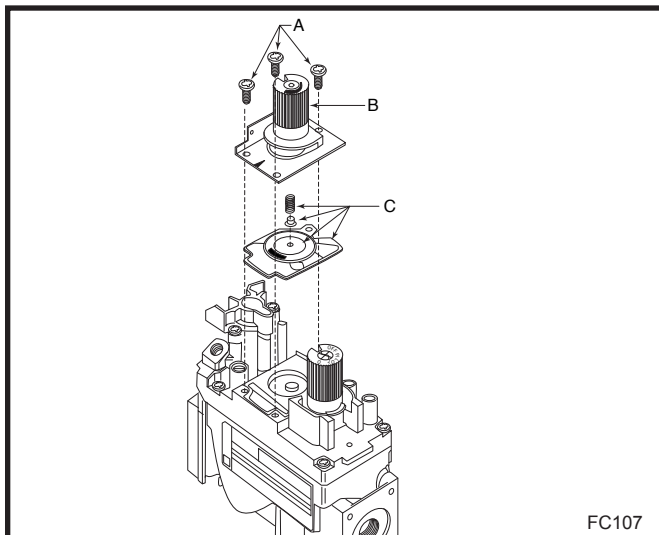

Fig. 56 Remove mounting screws, pressure regulator tower and spring and diaphragm assembly.
1. Using TORX T20 bit, remove and discard the three (3) pressure regulator mounting screws (A), pressure regulator tower (B) and the spring and diaphragm assembly (C). (Fig. 56)